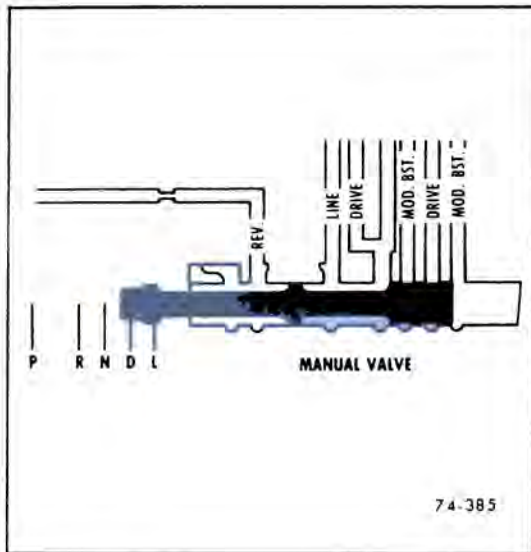

Figure 74-13—Manual Valve
e. Manual Valve (See Figure 74-13)